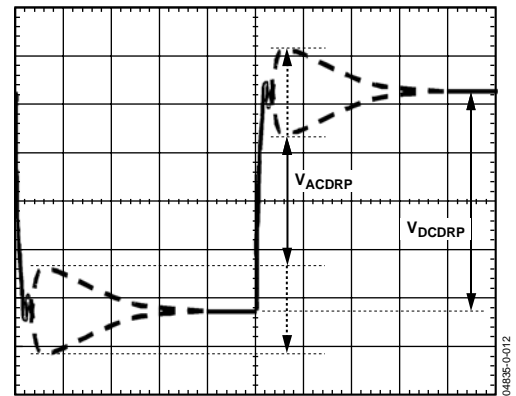

Figure 12. AC Loadline Waveform
14. Measure the output waveform (you may have to use dc offset on scope to see the waveform). Try to use a vertical scale of 100 mV/div or finer. This waveform should look similar to Figure 12.